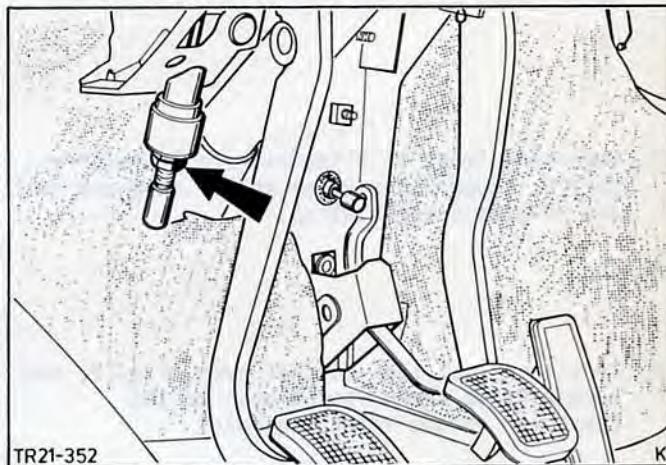

Fig.18. Slacken clutch cable.
17. Slacken clutch cable at pedal mounting in passenger compartment, Fig.18. Disconnect clutch cable from clutch release lever and draw out of the engine mounting.